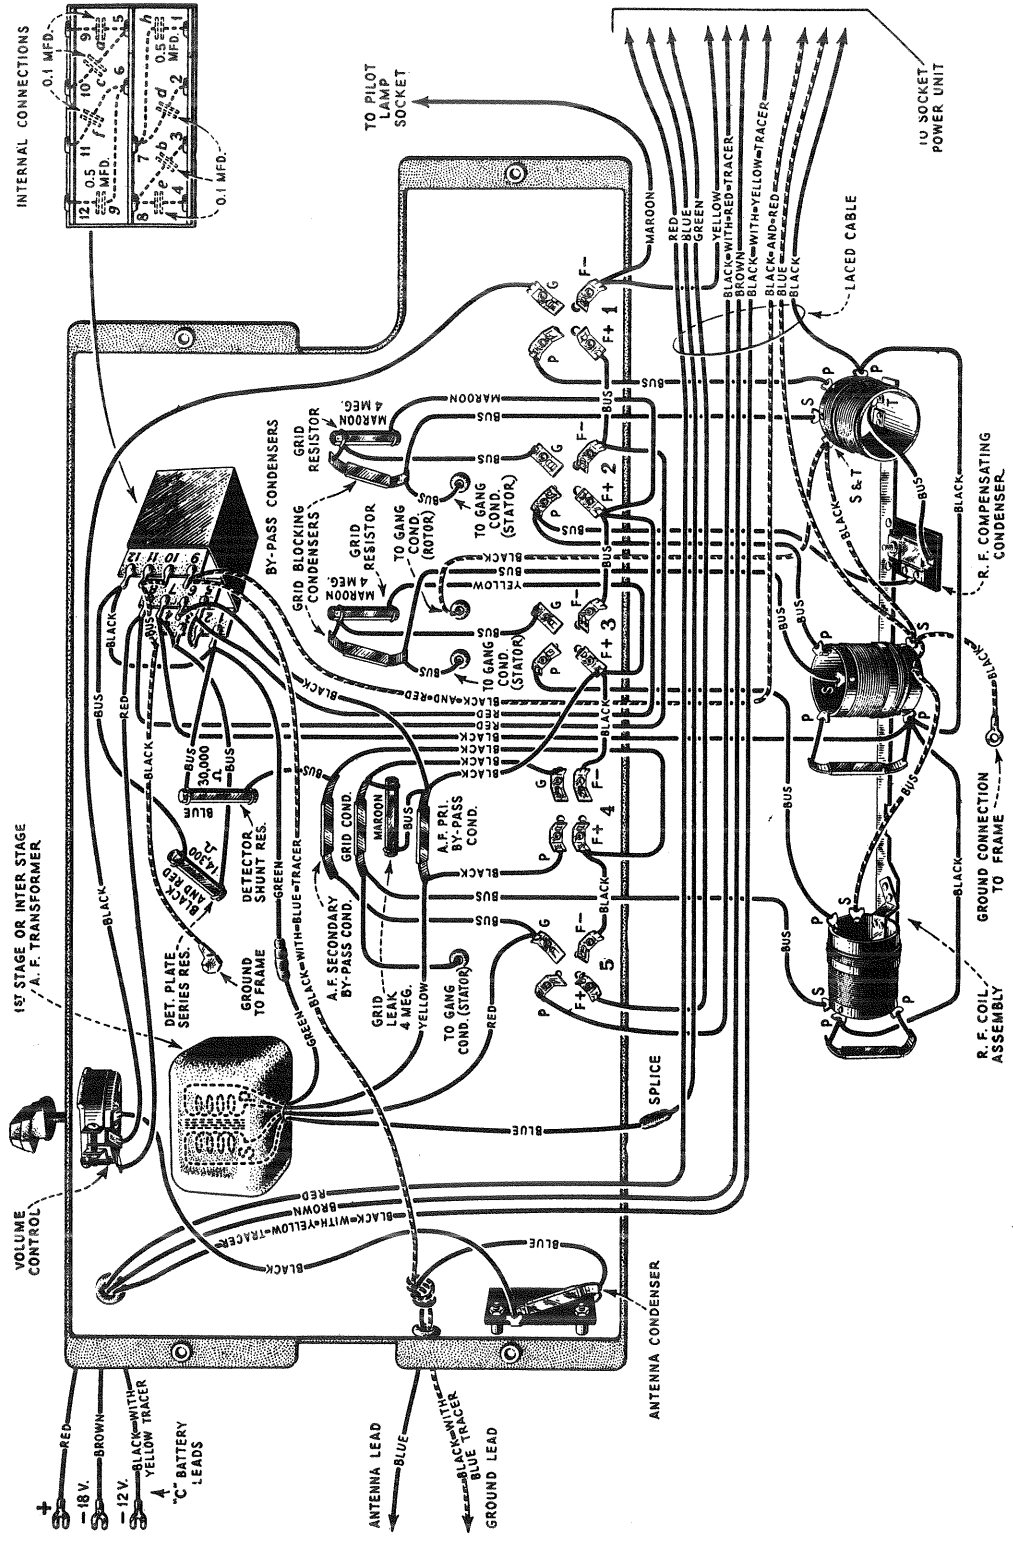
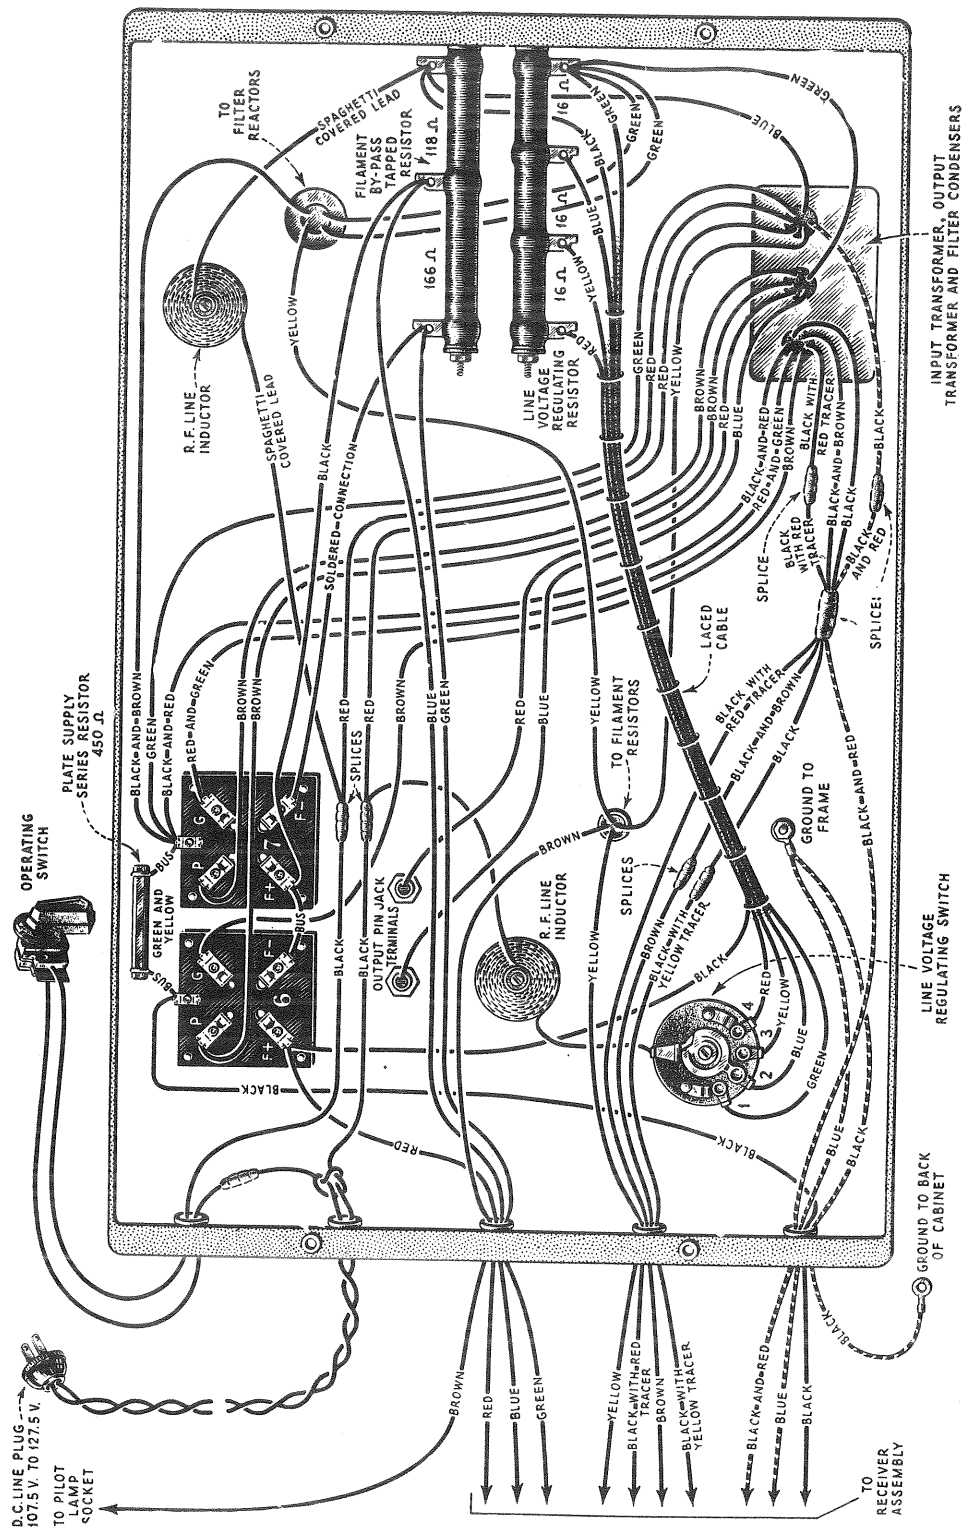

Figure 10—Continuity wiring diagram of receiver
Figure 11—Continuity wiring diagram of socket power unit
The following tests will show complete continuity for the receiver assembly (Figure 10), and the Socket Power Unit (Figure 11).
Disconnect the antenna and ground leads. Disconnect "C" battery. Remove all Radiotrons and Pilot Lamp. Disconnect D. C. Input Plug. Resistances given are approximate in value. Reference letters in last column refer to Figure 10.
In order to avoid false tests on condensers or parts in the chassis due to one side being normally grounded it is recommended that the three ground connections to the frame (shown by broken line in Figure 10) be removed temporarily and the rotor connection to the gang condensers be unsoldered. This isolates every part from normal ground. If a defective ground is causing trouble, a test from the suspected part to ground should uncover the defect.
- (d) Replace in the reverse order, making sure resistor is carefully tightened with insulating and lock washers in place, and resistor lugs are clear from the S.P.U. frame. Correct connections are shown in Figure 11.
- (d) Solder connections as shown in Figure 11.
- (e) Replace in reverse order. Proper connections are shown in Figure 11.
- (h) Resolder all leads to their proper connections (See Figure 11).